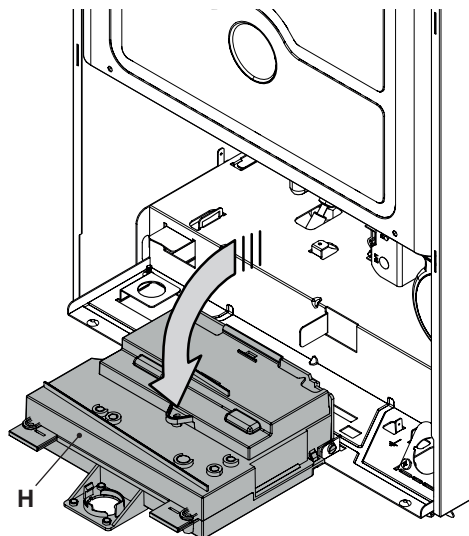

Figure 9.3
- Turn the control panel **H**, as shown in Figure 9.3 for easy access to the components inside the boiler.